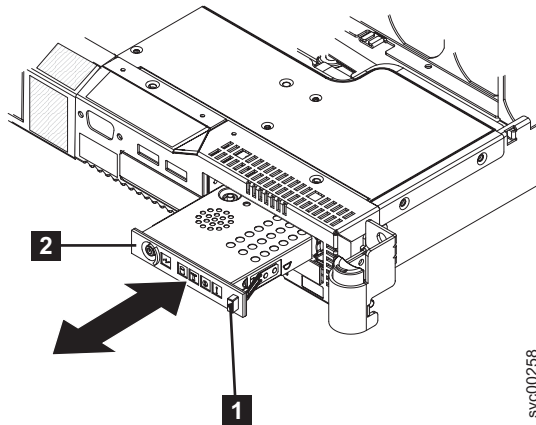

Figure 212. SAN Volume Controller 2145-8G4 operator-information panel
9. Press the release button (**1** in Figure 212 on page 228) on the front of the operator-information panel **2** and pull forward until it locks in place.